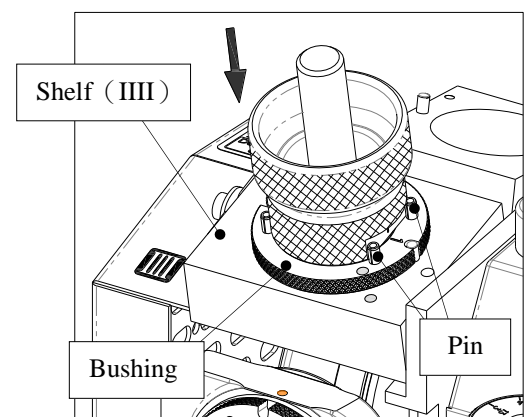

Fig. 15-3
3. 2 Flute End Gash Grinding (III) (Fig. 15-3)
- ① Insert the Chuck set into the bushing on Shelf (III), align Slot No.1 of the Chuck set with the two pins where marked as No.1, gently push the Chuck set into the shelf until the grinding noise stops, then take out the Chuck set.
- ② Take out the bushing; turn it by 180° to No.2, align No.2 of the bushing with the Pin on the shelf, then insert the bushing into the shelf.
- ③ Insert the Chuck set into the bushing on Shelf (III), align Slot No.2 of the Chuck set with the two pins where marked as No.2, gently push the Chuck set into the shelf until the grinding noise stops.